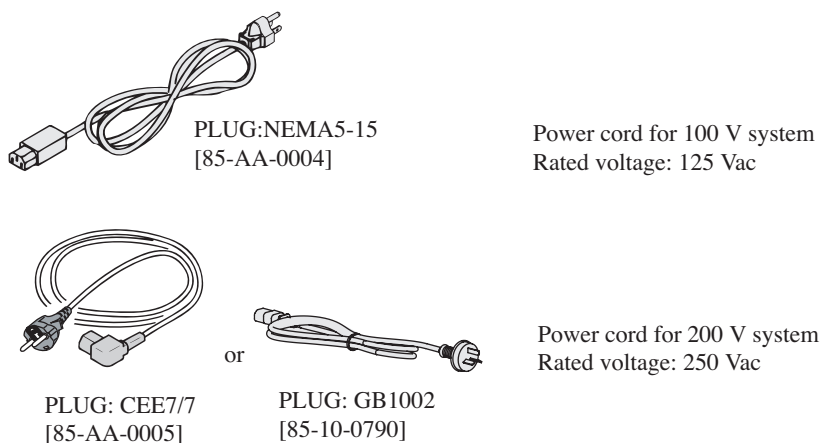

Fig. 1-2 Power Cord
- The AC power cord for 100 V system shown in Fig. 1-2 has a rated voltage of 125 VAC. If this AC power cord is used at the line voltage of a 200 V system, replace the power cord with that satisfying that line voltage. Appropriate power code must be selected by qualified personnel (those who have electrical knowledge). If such a power cord cannot be obtained, contact your Kikusui distributor/agent.